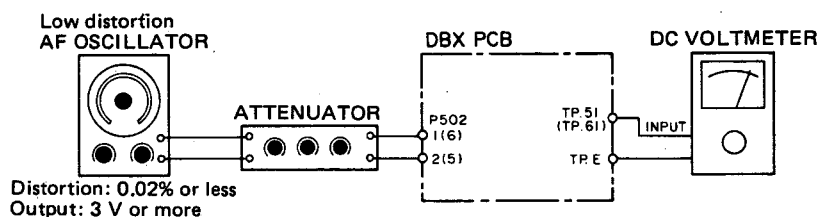

Fig. 5-11
6. Like Fig. 5-11, connect a DC voltmeter to TP51/TP61, then note the reading on the DC voltmeter with an input signal of 1 kHz/-8 dB (308 mV).
9. Check that when the input signal is 100 Hz/-8 dB (308 mV), then 10 kHz/-8 dB, the output signal from 3(4) terminal (OUTPUT) deviates by +0.5 dB $\pm$ 0.5 dB, then -2.8 dB $\pm$ 0.5 dB from -8 dB (reference), respectively so that output, as a voltage value, should be 308 mV to 346 mV for 100 Hz, and 211 mV to 237 mV for 10 kHz.